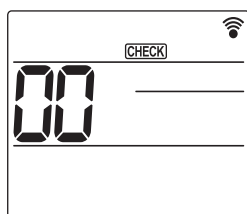

Fig. 6-8
- ① Turn on the power to the unit at least 12 hours before the test run.
- ② Press the **MENU** button for 5 seconds. (Fig. 6-8)